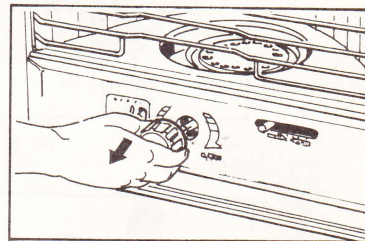

Fig. 17
(3) Extract wick adjusting knob. Remove the battery cover and extract the batteries. (Fig. 17)